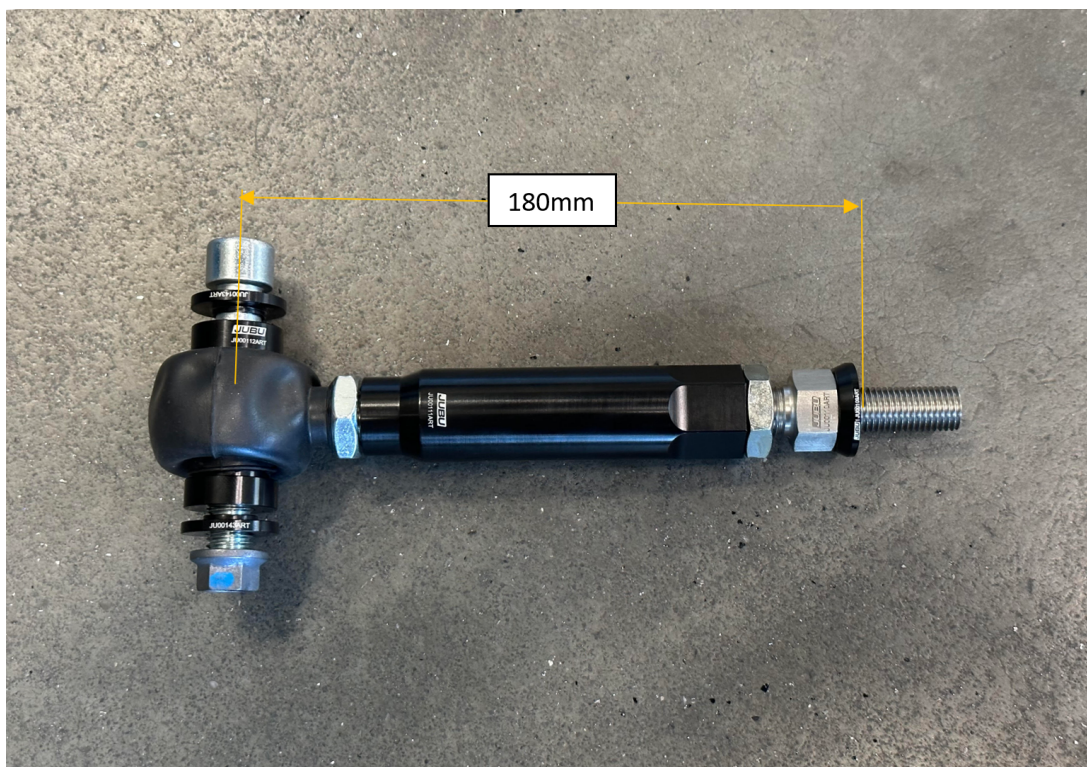

Fig 3: Pre-adjustment of the Toe-link
2. The connecting pin (1) is screwed into the OEM toe link pick-up fork using the washer with counterbore (3), tightening it with approx. 100 Nm and fixing it with *LOCTITE 243* (blue) glue.
3. Double check the rough pre-adjustment as shown in *Fig. 3* (middle rod end (6) to end of Toe Link washer (3) = approx. 180mm)